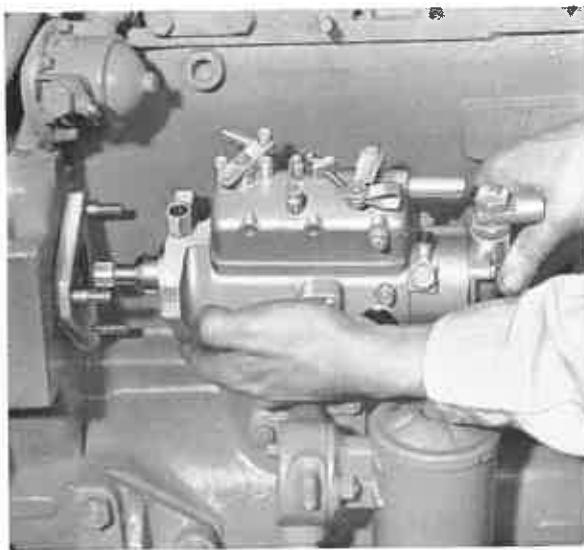

Fig. P.3. Removing Fuel Injection Pump.
5. Withdraw fuel pump and its quill shaft. (See Fig. P.3).